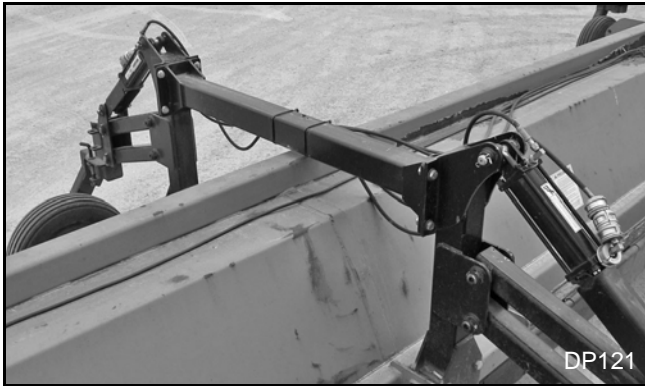

Figure 47. Crossmember Installed
3. Attach crossmember to strut uprights. Tighten all mounting hardware at this time per torque chart, Figure 47.